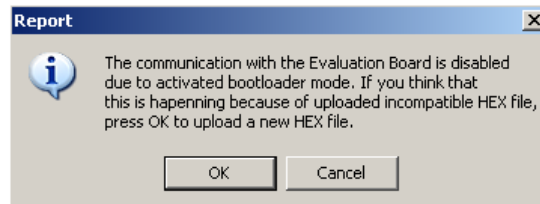

Fig. 5.25
5. Start MLX90614 Configurator. The following message appears (Fig. 5.25).